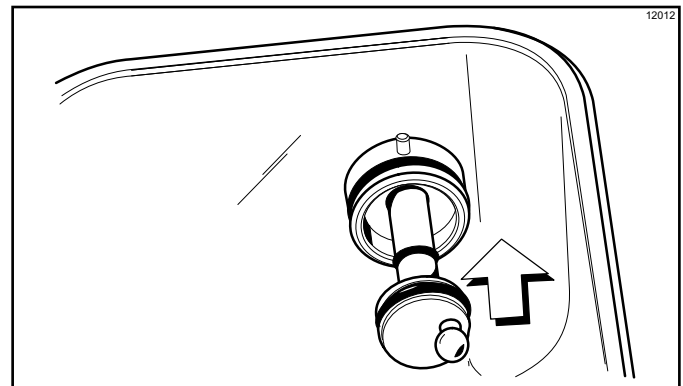

Figure 6-37
14. Install the hex end of the driveshaft into the drive hub at the rear wall of the mix hopper. (See Figure 6-37.)